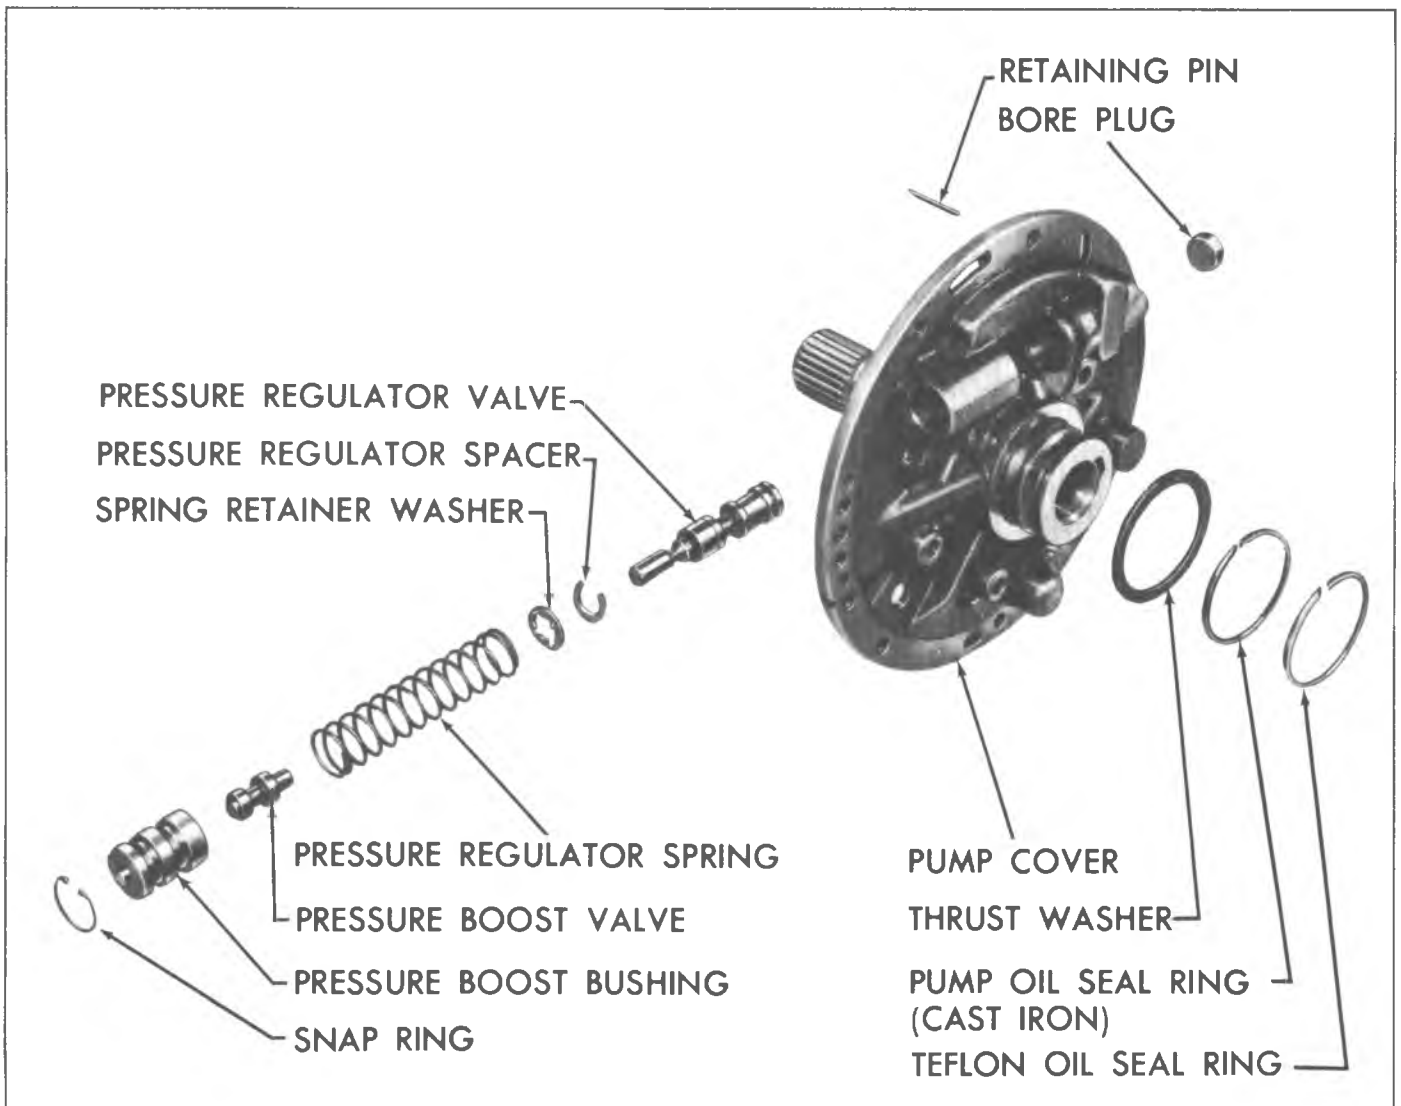

Fig. 59T--Pump Cover--Exploded View
3. Install spacer(s) if used, retainer and spring, into pressure regulator bore (fig. 59T).